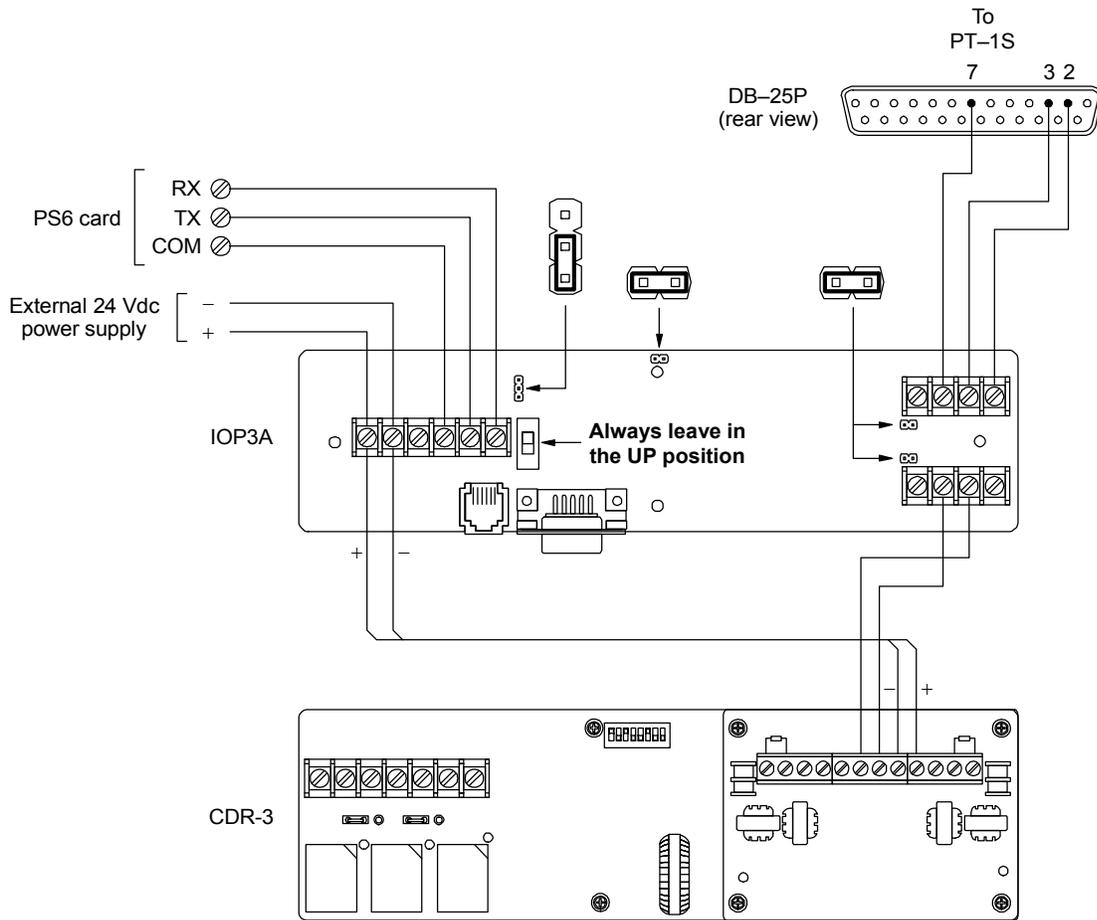

Figure 4-10: IOP3A application wiring diagram
3. Wire as shown in Figure 4-10.